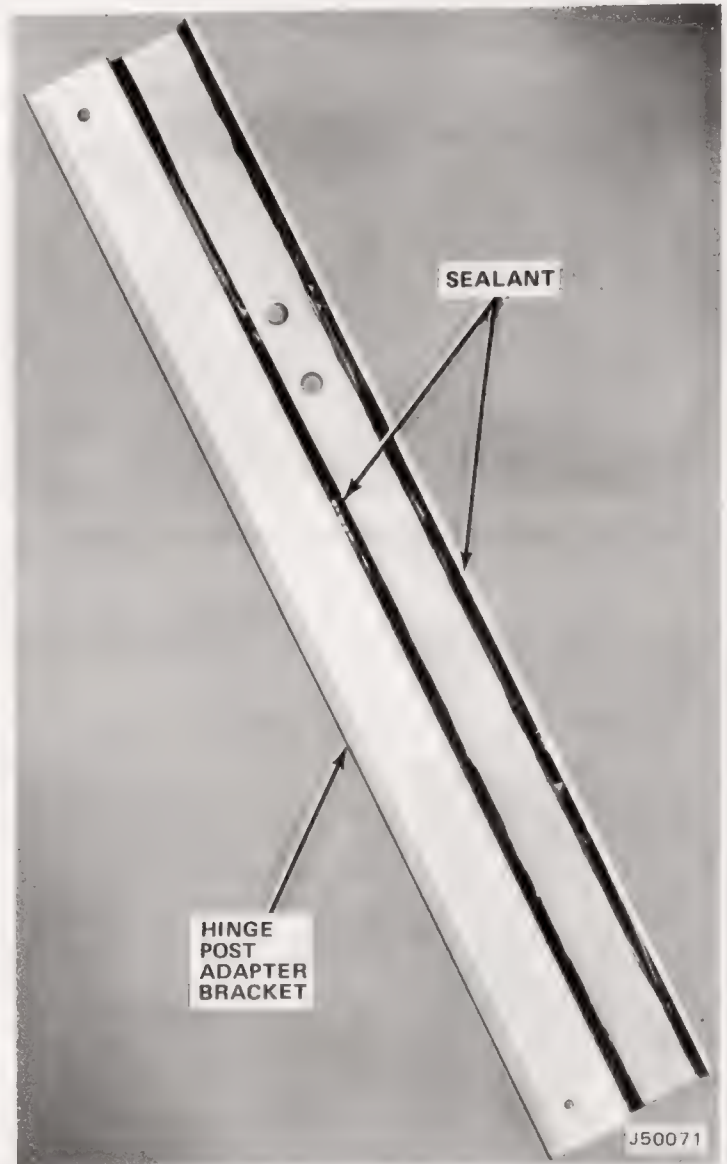

Fig. 2-3 Sealant Applied to Adapter Brackets
(1) Temporarily remove two original bolts and two original tapping screws from each side of windshield frame.
(2) Apply sealant along inside corners of two hinge post adapter brackets (fig. 2-3).
(3) Position adapter brackets on sides of windshield frame, aligning bracket holes with existing holes in frame.
(4) Secure upper sides of adapter brackets to windshield frame using original bolts, lockwashers, and nuts.